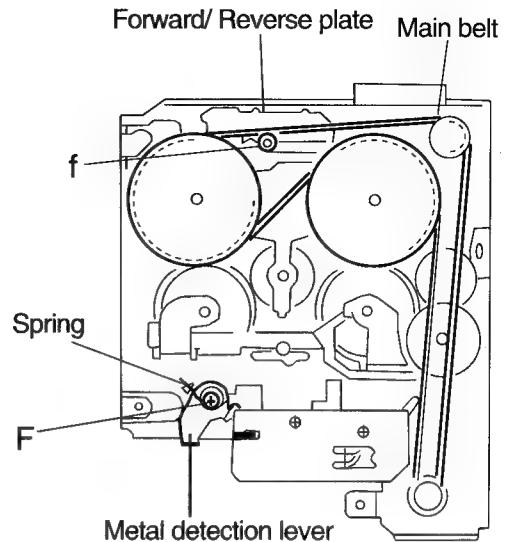

Fig. 8
■ Removing the Head Plate (See Fig. 8,9)
7. Remove the two screws **F** fixing the metal detection lever and removal spring as shown in Fig. 8.